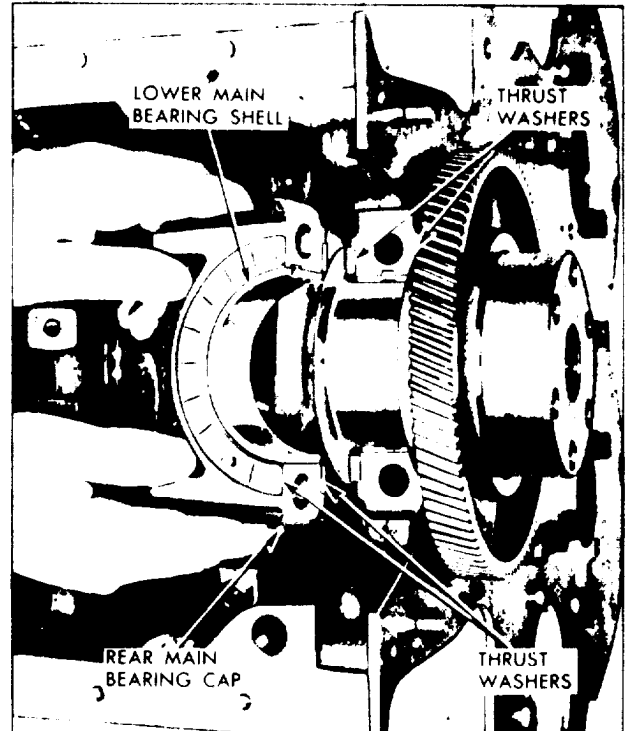

Fig. 9- Crankshaft Thrust Washers in Place
3. Assemble the crankshaft thrust washers (Fig. 9) before installing the rear main bearing cap. Clean both halves of each thrust washer carefully and remove any burrs from the washer seats -- the slightest burr or particle of dirt may decrease the clearance between the washers and the crankshaft beyond the specified limit. Slide the upper halves of the thrust washers into place. Then assemble the lower halves over the dowel pins in the bearing cap.